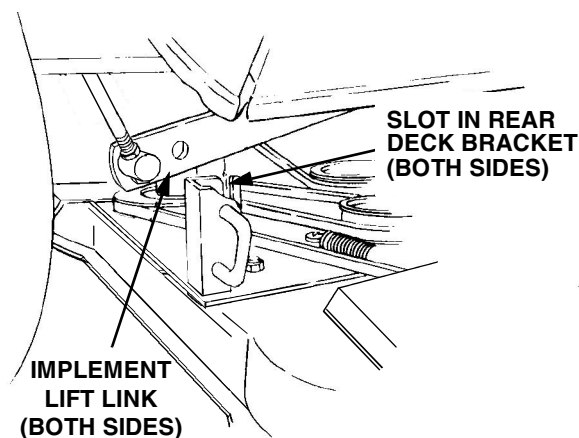

Figure 2-4
- Raise the tractor implement lift handle to its highest setting and slide the deck under the tractor. Make sure the slot in each rear deck bracket aligns with the implement lift link on each side of the tractor (See Figure 2-4).